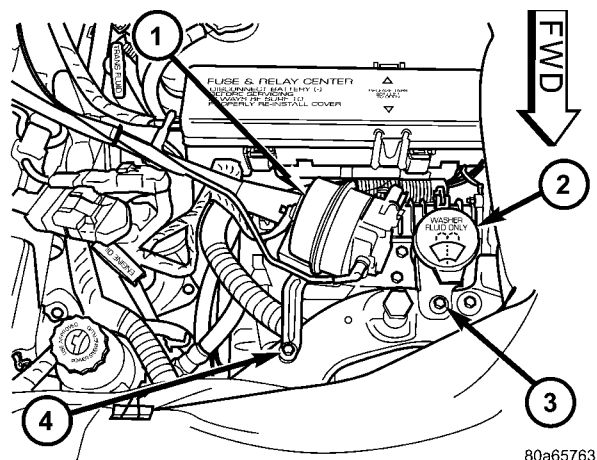
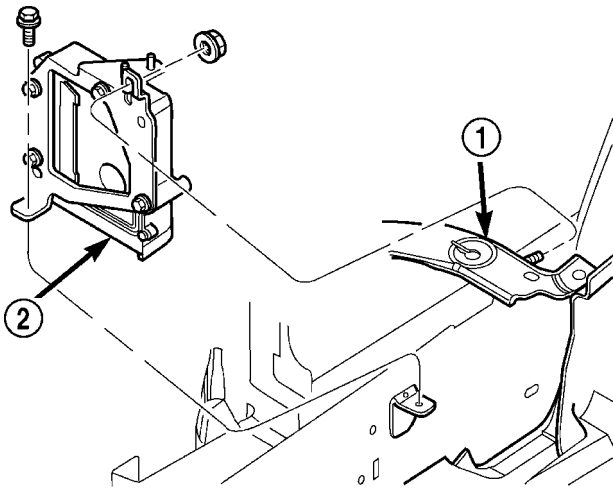

Fig. 81 Servo And Filler Tube Fasteners
Fig. 82 Transmission Control Module (TCM)—Removal/Installation
(1) If the left rear proportioning valve is suspect, disconnect the tube nut fitting at the master cylinder primary port (port closest to power brake booster). Install Adapter, Special Tool 8494-2, in its place on the master cylinder.
(2) If the right rear proportioning valve is suspect, disconnect the tube nut fitting at the master cylinder secondary port (port furthest from power brake booster). Install Adapter, Special Tool 8494-2, in its place on the master cylinder.
(3) Connect primary brake tube to Adapter.
(4) Install a Pressure Gauge, Special Tool C-4007-A, to the Adapter.
(5) Tighten all tube nut fittings to 17 N·m (145 in. lbs.) torque.
(6) Remove screw fastening the speed control servo to the upper radiator closure panel (Fig. 81).
(7) Remove screw fastening the washer filler tube to the upper radiator closure panel (Fig. 81).
(8) Remove nut and screw securing transmission control module to vehicle (Fig. 82).
(12) If the left rear proportioning valve is suspect, install Adapter, Special Tool 8494-3, in its place on the junction block.
(13) If the right rear proportioning valve is suspect, install Adapter, Special Tool 8494-4, in its place on the junction block.
(14) Install a Pressure Gauge, Special Tool C-4007-A, to the Adapter.
(15) Tighten all tube nut fittings to 17 N·m (145 in. lbs.) torque.
(16) Bleed any air out of the system. This includes bleeding the air from the hose between the pressure test fitting and pressure gauge, which is done at the pressure gauge.
(17) With the aid of a helper, apply pressure to the brake pedal until reading on proportioning valve inlet gauge (at master cylinder) is at the pressure shown on the chart at the end of this procedure. Then check the pressure reading on the proportioning valve outlet gauge (at junction block outlet to rear brake). If proportioning valve outlet pressure does not agree with value shown on the chart (once inlet pressure shown on chart is obtained), replace the junction block (with internal proportioning valves) (Refer to 5 - BRAKES - BASE/HYDRAULIC/MECHANICAL/JUNCTION BLOCK - REMOVAL). If pressure is within specifications, do not replace proportioning valve and perform the following steps.
(18) Remove the Pressure Gauge and Adapter, Special Tool 8494-3 or 8494-4, from junction block.
(19) Reinstall the chassis brake tube to the junction block port. Tighten tube nut fitting to 17 N·m (145 in. lbs.) torque.
(20) Install the transmission control module (with speed control servo attached) in its normal position (Fig. 82). Install the nut and screw securing it in place.
(21) Install the transmission control module mounting nut and screw securing it in place. Tighten the screw to 6 N·m (45 in. lbs.). Tighten the nut to 12 N·m (107 in. lbs.) torque.
(22) Install the screw attaching the washer filler tube to the upper radiator closure panel (Fig. 81).
(23) Install the screw attaching the speed control servo to the upper radiator closure panel (Fig. 81).
(24) Remove the Pressure Gauge and Adapter from master cylinder.
(25) Install the brake tube to the master cylinder primary or secondary port. Tighten the tube nut to a torque of 17 N·m (145 in. lbs.).
(26) Bleed the affected brake line. (Refer to 5 - BRAKES - BASE - STANDARD PROCEDURE)